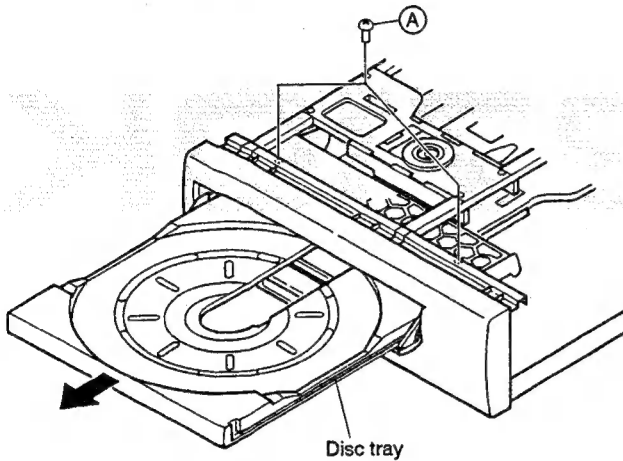
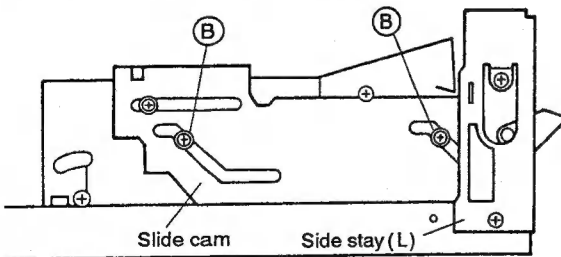

Fig. 1
Fig. 2
- ① Remove two screws (A) for tray stopper. (Fig. 1)
- ② Remove the front panel. (by loosening three screws at the top side and a fixing screw of the earth lead.)
- ③ Remove two fixing screws from the slide cam on the left side. (Fig.2)
- ③ Insert so that the first tooth of the straight gear on the rear of the disc tray meshes with the chipped gear teeth of the roller plate assembly.
- ④ Tighten two screws ④ for disc tray stopper. (Fig. 1)
- ① Insert a screwdriver into the chassis hole near a strain relief through the back of the base chassis and remove the strain relief stop ring.